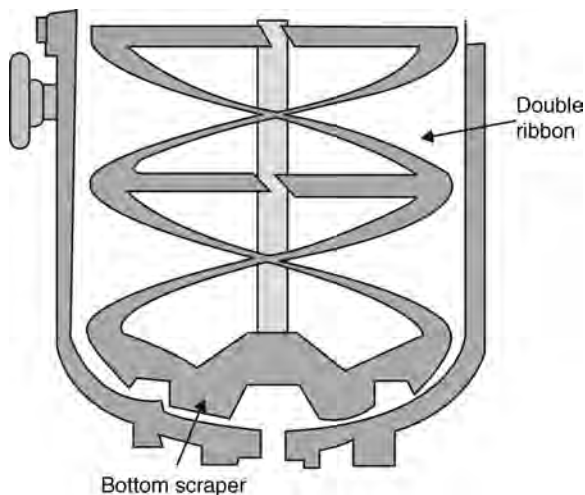

FIGURE 6.13 Helical ribbon impeller.
- Figure 6.13 illustrates a helical ribbon impeller.